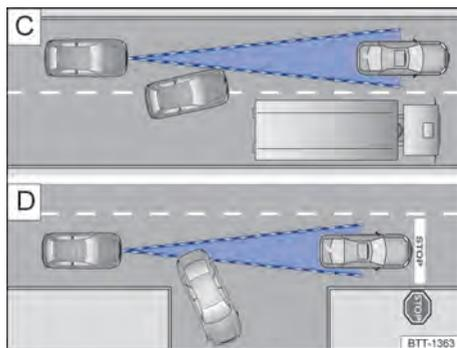

Fig. 102 C Changing lanes. D Vehicle turning or stopped.
For example, if a vehicle detected by the ACC turns or changes lanes, and if there is a parked vehicle in front, the ACC will not react to the parked vehicle → Fig. 102 [D].
- Vehicles changing to the same lane of the vehicle, at a close distance → Fig. 102 [C].